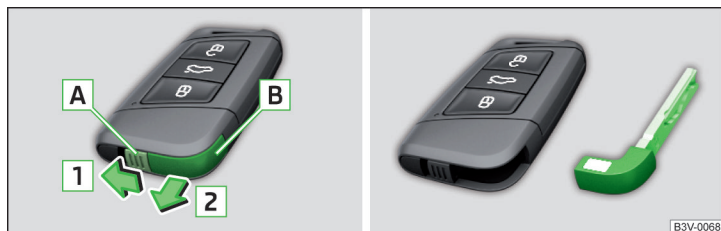

Fig. 242 Remove emergency key
- Unlock the locking lug **A** in the direction of arrow **1** and remove the emergency key **B** in the direction of arrow **2** » Fig. 242.